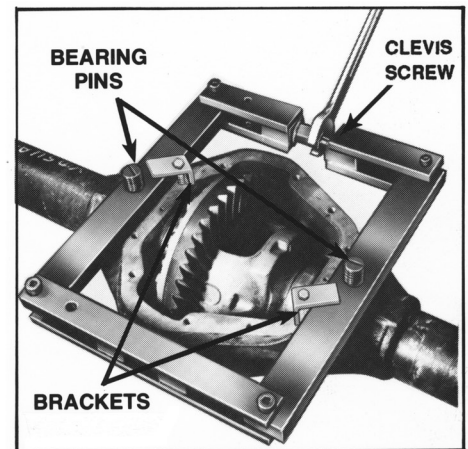

FIGURE 1
2. See Figure 1. The bearing pins (#1) have a 7/8" dia. thread on one end and a 1" dia. thread on the other end. Place the spreader on the carrier housing, and determine which threaded end of the pin should be used.
**! WARNING:** To prevent personal injury, the brackets (#7) must have maximum contact with the flat, parallel surfaces on the carrier housing and the bolsters. See Figure 1.